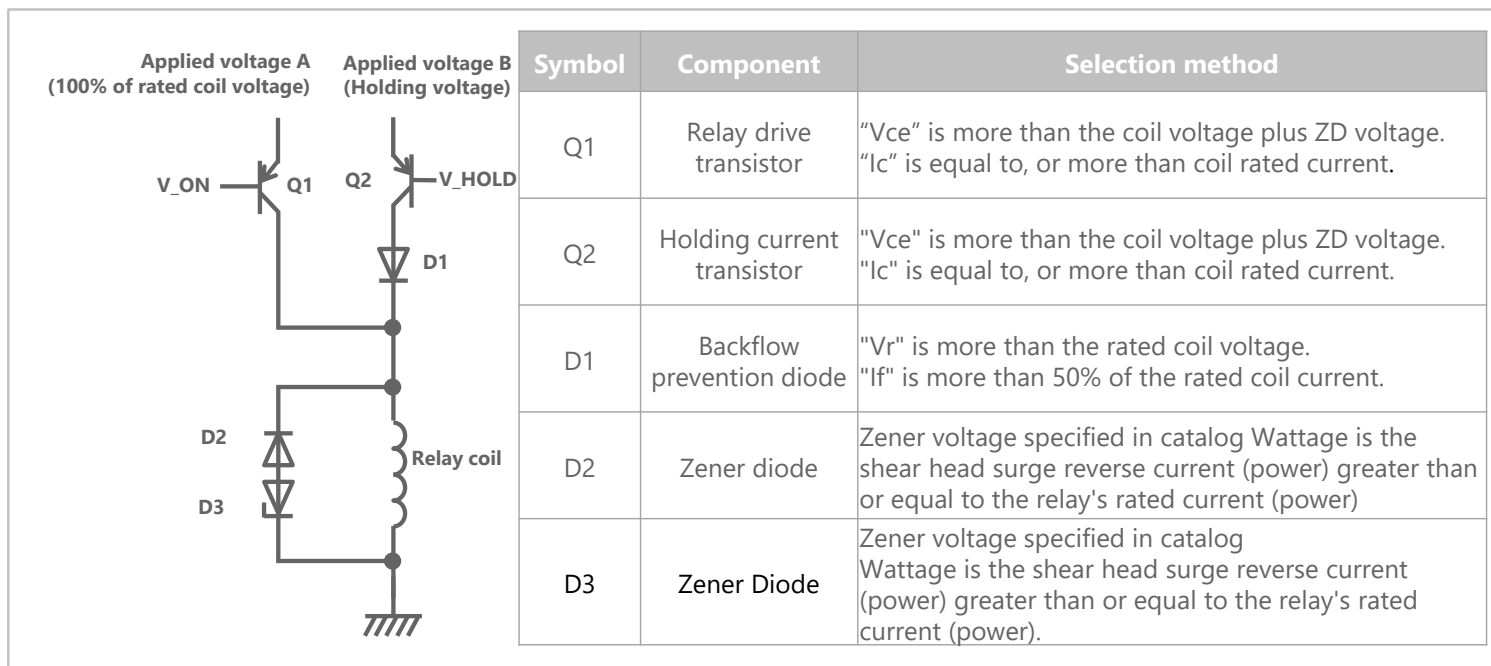

Figure 13: Recommended holding voltage circuit example with switch, and peripheral component selection method
If a low voltage (B) for holding the coil is available in addition to the rated coil voltage (A), it can be switched to the holding voltage by means of a switch. Switching to 50% voltage will reduce the current to 50%, thus greatly reducing the power consumption of the entire circuit to 1/4 of the rated value. (Figures. 13 and 14).